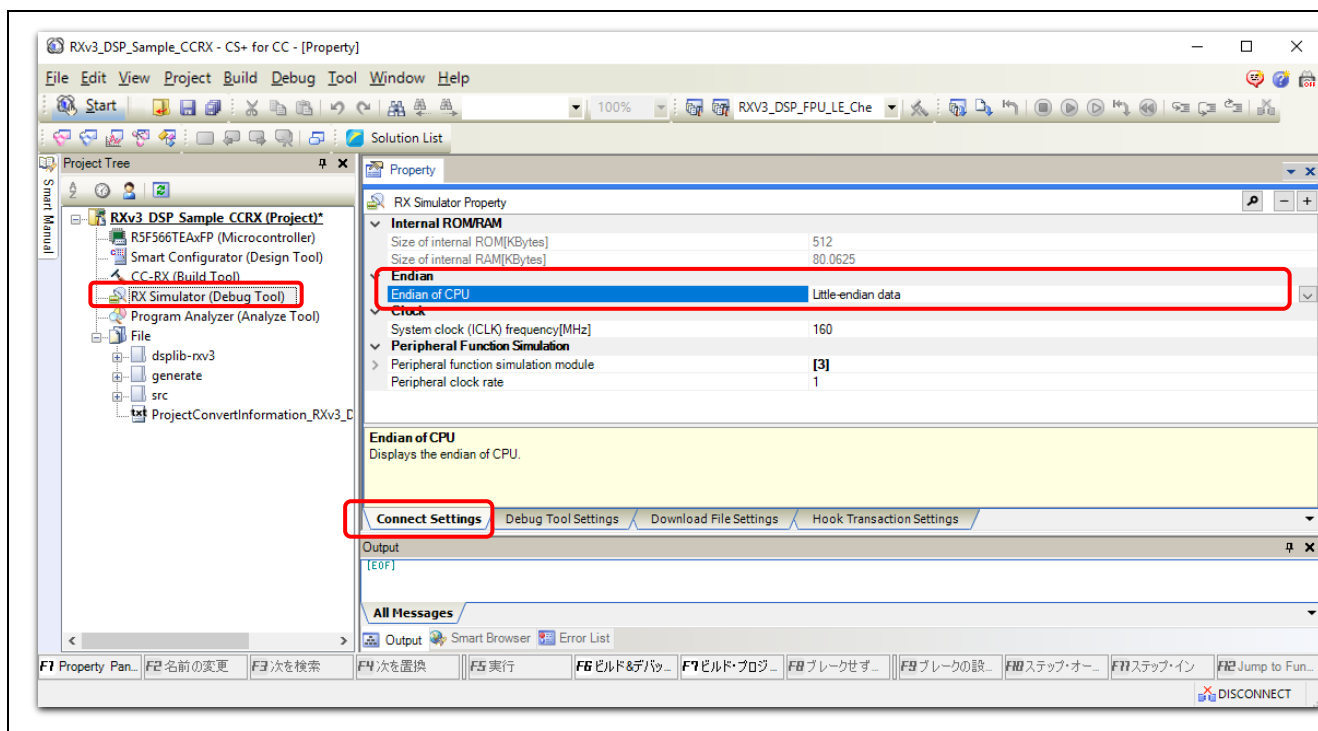

Figure 3-6 Setting of RX Simulator in CS+
1. Select endian depending on the selected build configuration. As shown in Figure 3-6, click “RX Simulator (Debug Tool)”, then under RX Simulator Property select the Connect Settings tab and under Endian select “Endian of CPU”.